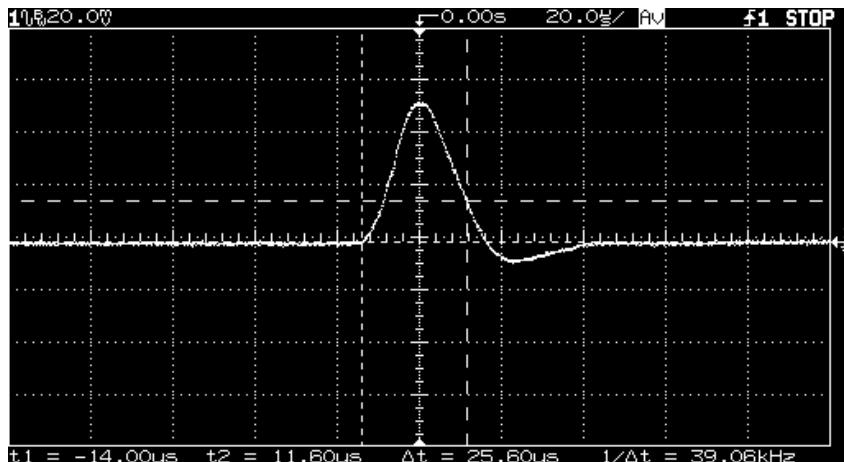

Figure 3-2. Transient Response Time
- 5 Adjust the the oscilloscope to display transients as shown in Figure 3-2. Note that the pulse width ($t_2 - t_1$) of the transients at 15 mV from the base line is no more than 50 μ sec for each of the three outputs.
- 6 Repeat steps (1) through (5) for the remaining outputs.